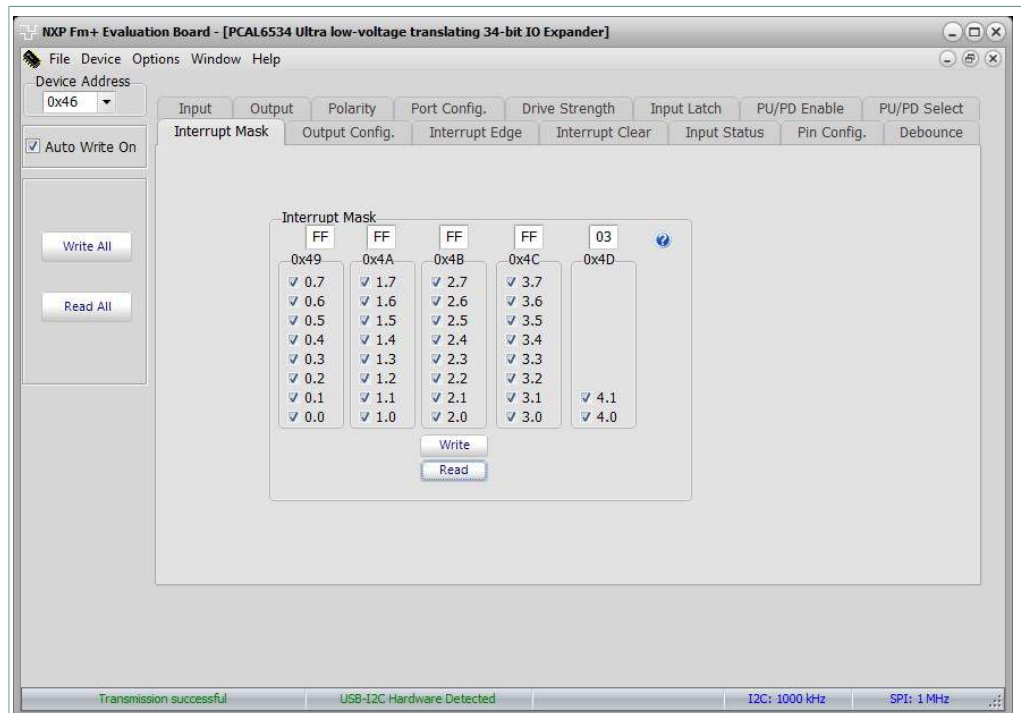

Figure 18. Device configuration screen for registers 49-4D hex
10. Interrupt mask registers read or write are shown in Figure 18.